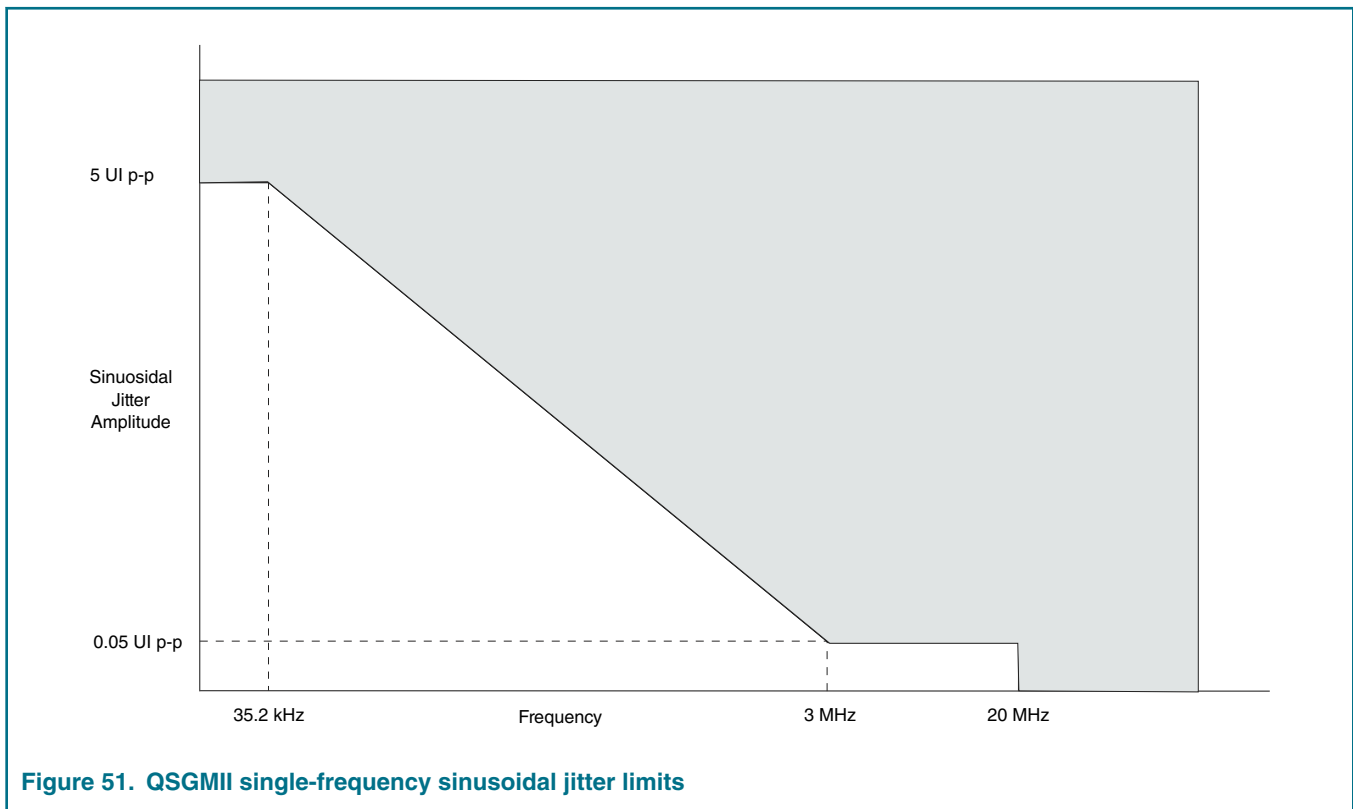

Figure 51. QSGMII single-frequency sinusoidal jitter limits
2. See Figure 51. on page 156.